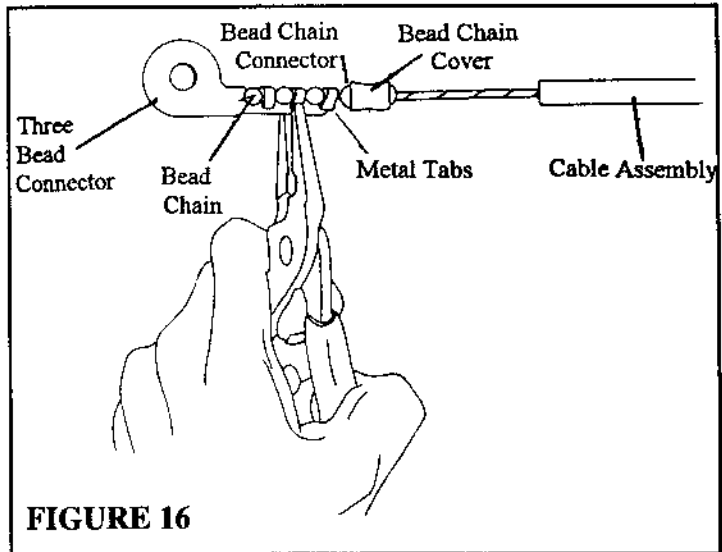

FIGURE 16
2. Attach the **Bead Chain** to the **Three Bead Connector**. Secure beads by folding the metal tabs. (Figure 16)